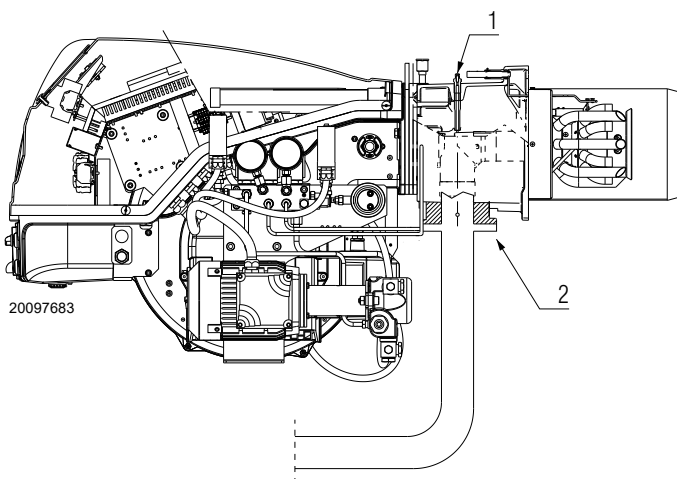

Fig. 31
Gas manifold pressure measured at test point 1)(Fig. 31), with:
- subtract the combustion chamber pressure from the gas pressure measured at test point 1)(Fig. 31).
- Gas pressure at test point 1)(Fig. 31) = 4.41" WC